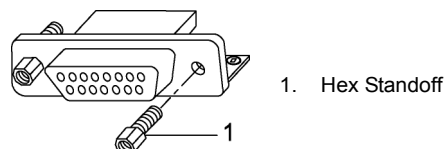
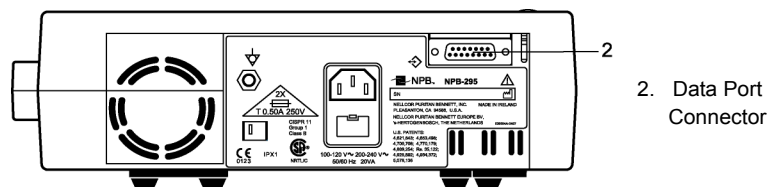

Figure 32: Hex Standoff Installation
Figure 33: Data Port
1. Install two hex standoffs (Figure 32, item 1) on oximeter data port connector (Figure 33, item 2). Refer to oximeter service manual for oximeter disassembly.
2. Connect the *Oxinet II* hard-wire cable 15-pin connector to the pulse oximeter data port connector (Figure 33, item 2).